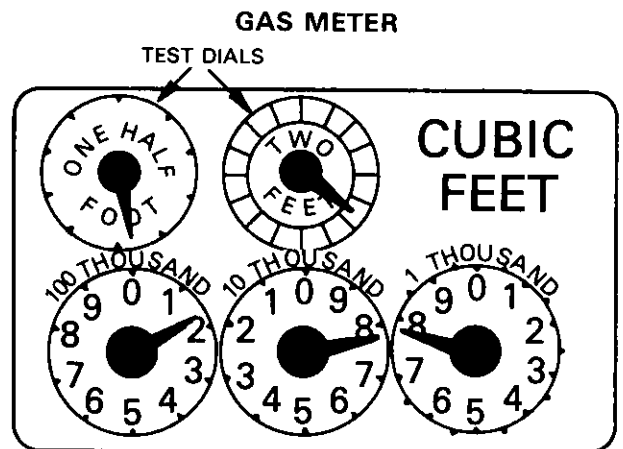

FIGURE 32
- 3 - At the gas supply meter and using either the one, two or five-foot dial on the meter, time one full revolution (in seconds) with a watch. See Figure 32.